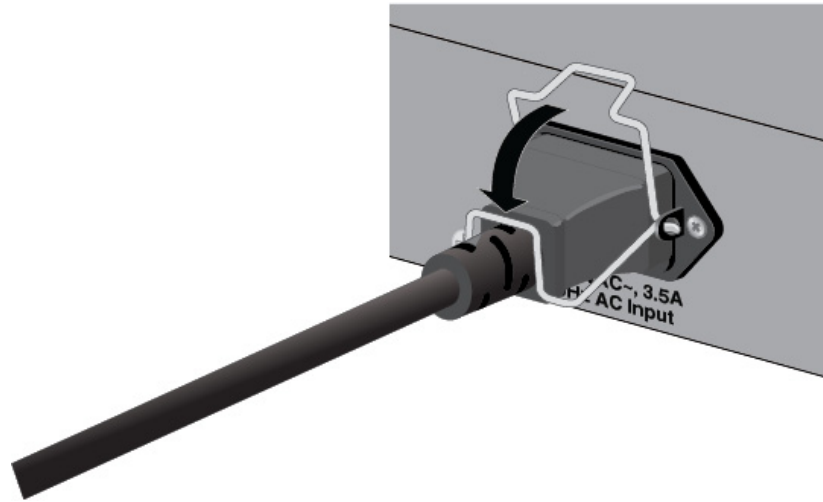

Figure 47. Lowering the Retaining Clip
4. Lower the retaining clip to secure the power cord to the switch. Refer to Figure 47 on page 84.